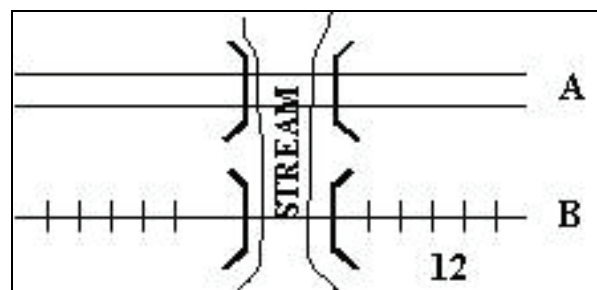

Figure 3-38. Bridges
- l. Bridges (see Figure 3-38).
- (1) Highway.
- (2) Railroad.